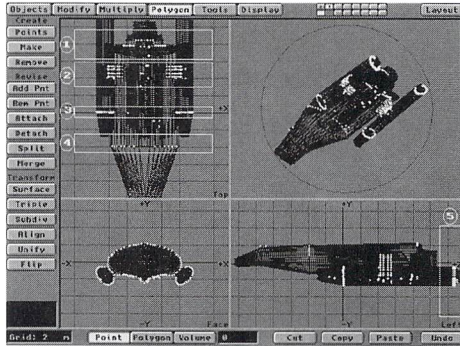

Figure 7: Point groups for the shadow edge
the locations of the points: the body of the ship itself, the two side thruster units (nacelles) and the support arms connecting the thrusters to the ship's body. In Figure 7, note that the group of points in groups (1) and (4) are indicative of the main body, group (2) represents the support arms, and groups (3) and (5) are from the thrusters. To simplify the shadow edge, we'll need to collapse the points onto a single plane, which ideally should be the frontmost edge of that particular group.